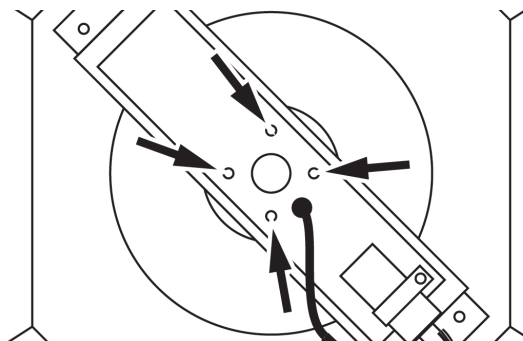

Figure 11
- c. Separate the motor from the motor mount by removing the four screws found in Figure 11.